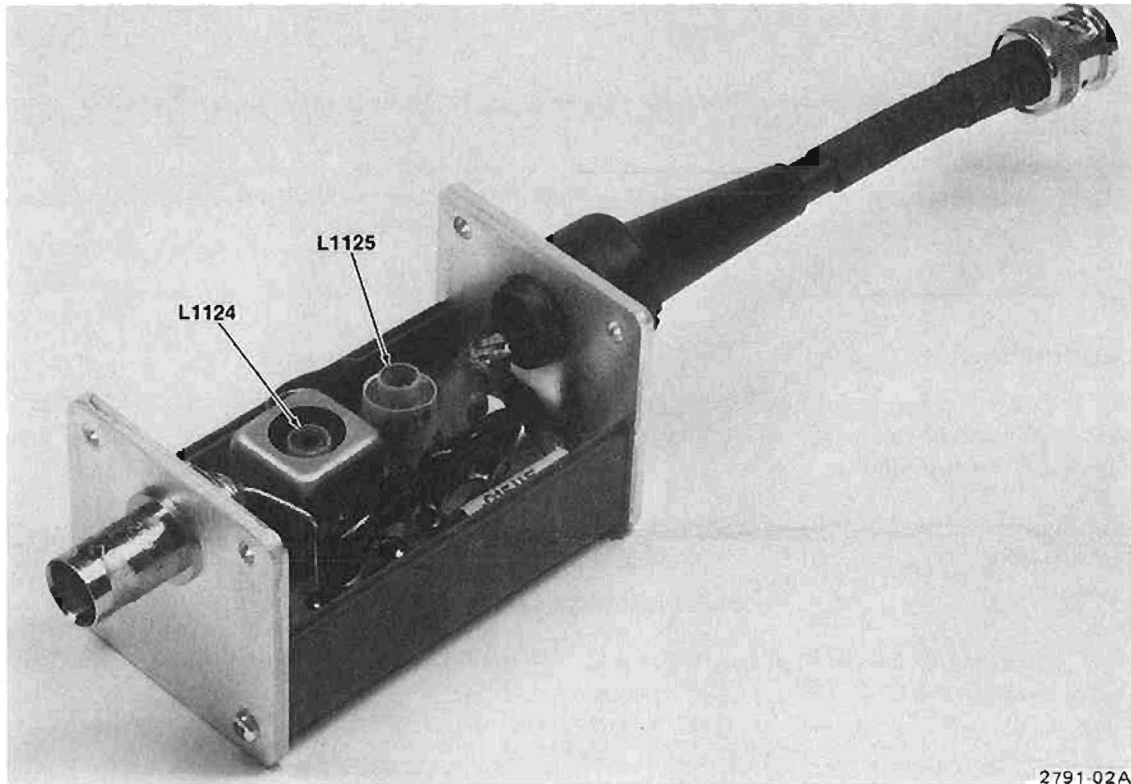

Figure 2. Filter adjustment locations.
5. Remove the four screws retaining the lower (unlabeled) half of the filter case (see Figure 2) and pull off the half case. This provides access to the two coils which must be adjusted.
6. ADJUST—using the nylon alignment tool, alternately adjust the cores in coils L1124 and L1125 (Figure 2) to obtain optimum transient response of the displayed signal.